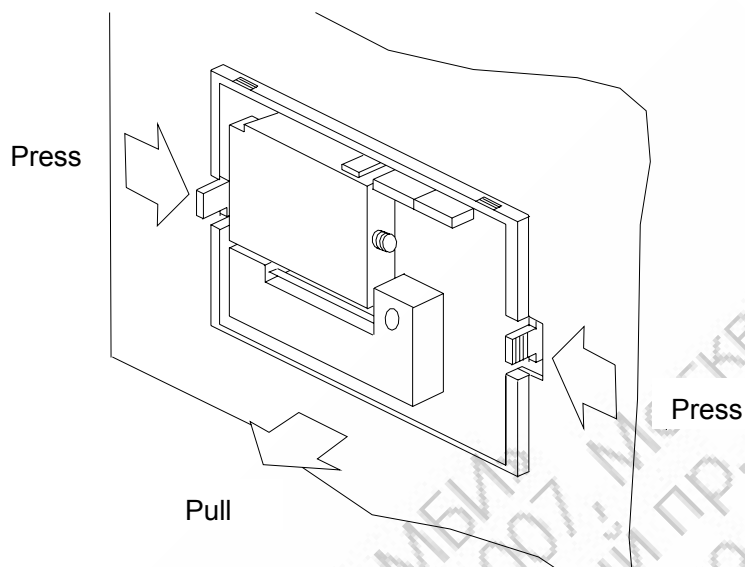

Fig.8-2
- 2) Remove the whole printer from the panel. Please nip the movable tongues on the two sides with fingers according to Fig.8-2, remove the whole printer from the panel gently. **Note: Before removing the printer, make sure to turn off the power to the printer.**